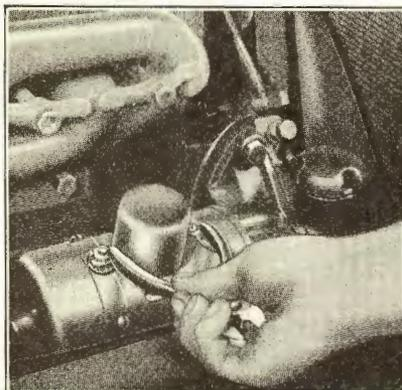

Fig. 510
- 1068** If a magnetic or singing noise is heard in the generator and the ammeter fails to register a charge, place the ends of a pair of pliers across the cutout terminals (See Fig. 510) while the engine is running at a speed equivalent to 20 miles per hour. If the ammeter now registers a charge, the trouble lies in the cutout and a new cutout should be installed. If ammeter fails to register a charge the trouble is probably due to an open in the charging circuit and can be remedied as described in Chapter XXXIX.